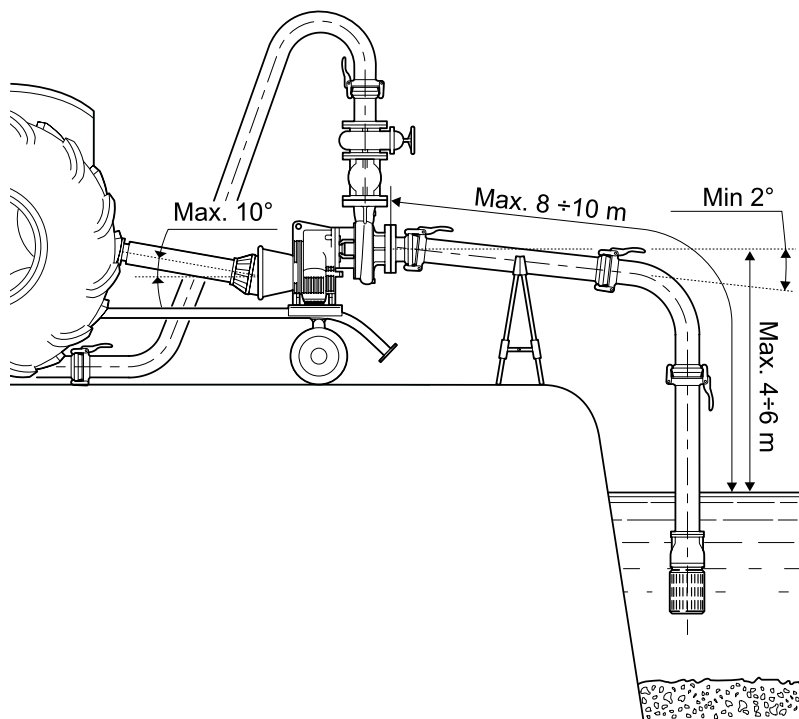

fig. 7
**The cardan shaft should be connected with an alignment angle less than 10° (fig. 7). Suction and delivery pipes must be correctly mounted and not subject to stress during pump operation.**
The cardan shaft should be connected with an alignment angle less than 10° (fig. 7). Suction and delivery pipes must be correctly mounted and not subject to stress during pump operation. Also refer to paragraph 6.2.